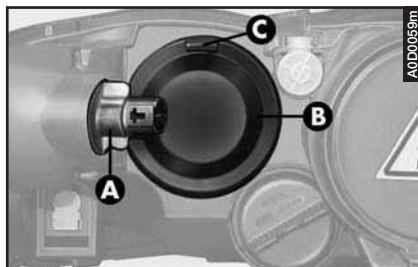

fig. 29
– Turn counter-clockwise and remove the direction indicator bulb holder (**A-fig. 29**), without disconnecting the connector to widen the working space.